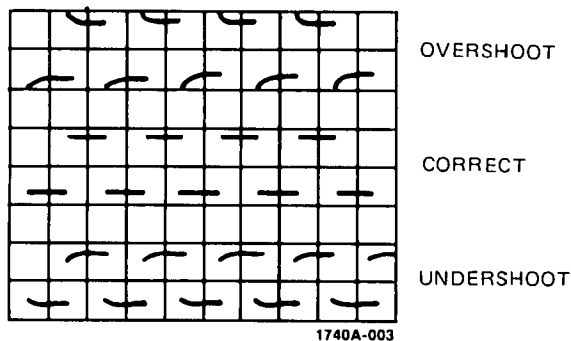

Figure 3-2. Probe Compensation
- h. Adjust divider probe compensation for correct display (see figure 3-2).